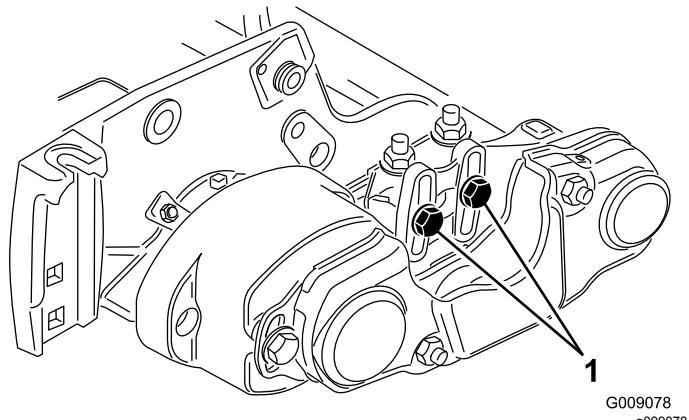
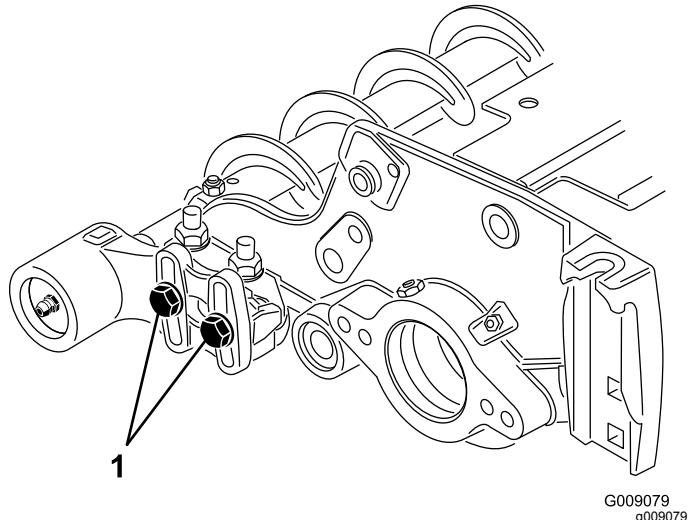

Figure 12
Figure 13
15. Loosen the 2 bolts securing each roller-brush-bearing housing to the roller-brush mounting bracket (Figure 12 and Figure 13).